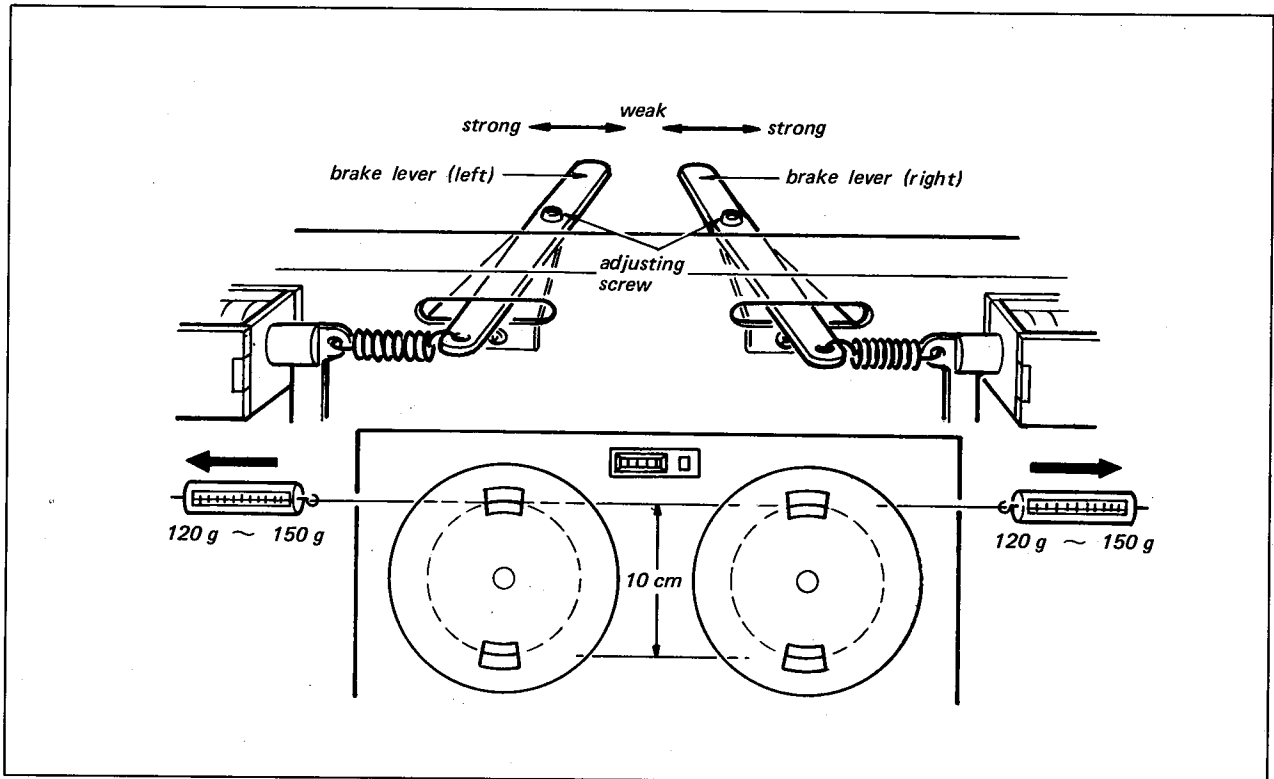

Fig. 3-1. Brake torque adjustment
3-1. Brake Torque Adjustment (See Fig. 3-1)
- 1) Place an empty reel (with 10cm hub diameter with about 80 cm length of string to the reel anchor) and a spring scale on the left reel table as shown in Fig. 3-1.